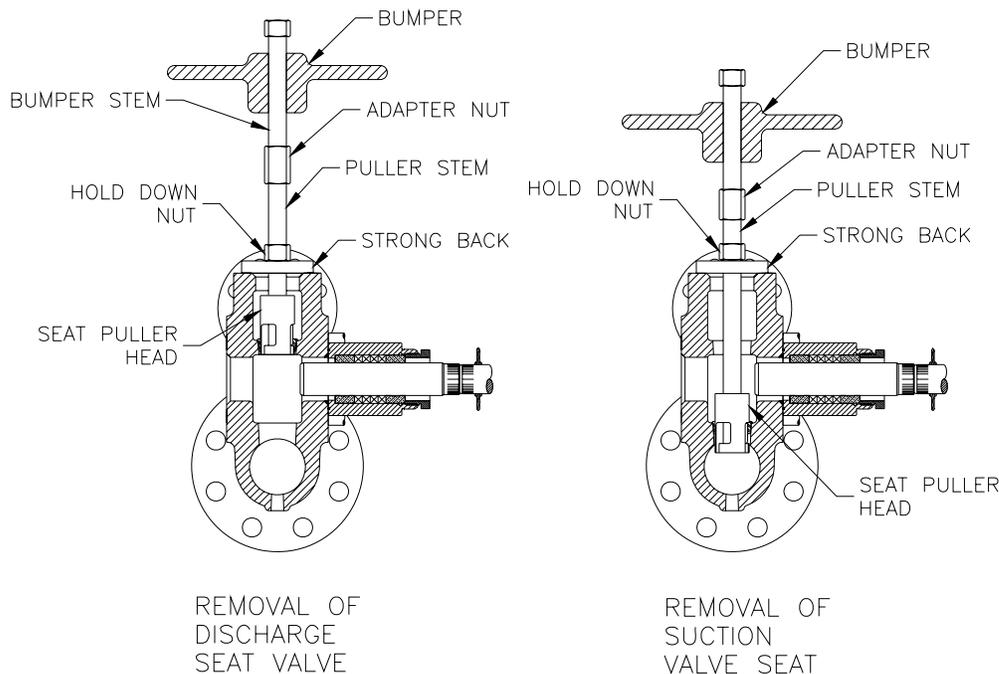

FIGURE 6
- g. Use the special valve puller and remove the valve seat. See Figure 6.